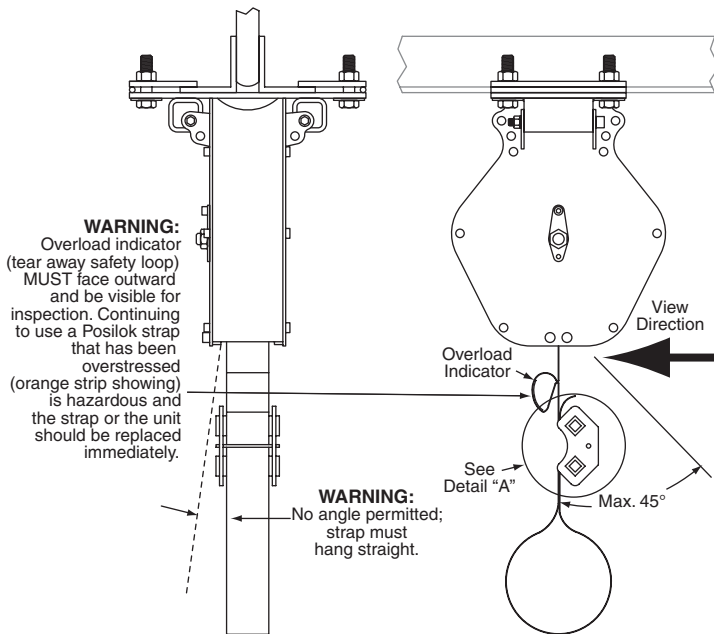

Figure 1
- ① Does the location you wish to place the Posilok have enough room for adaptors, mounting hardware, and servicing of the unit?
- ② Is the pipe, flange or wall to which you wish to attach the Posilok structurally adequate (consult your engineer for approval)?
- ③ Fleet angles up to 45 degrees are acceptable as shown in Fig. 1. Lateral angles for the strap are not acceptable, and the strap must run clear without touching the edges of the slot, or any other obstacle.